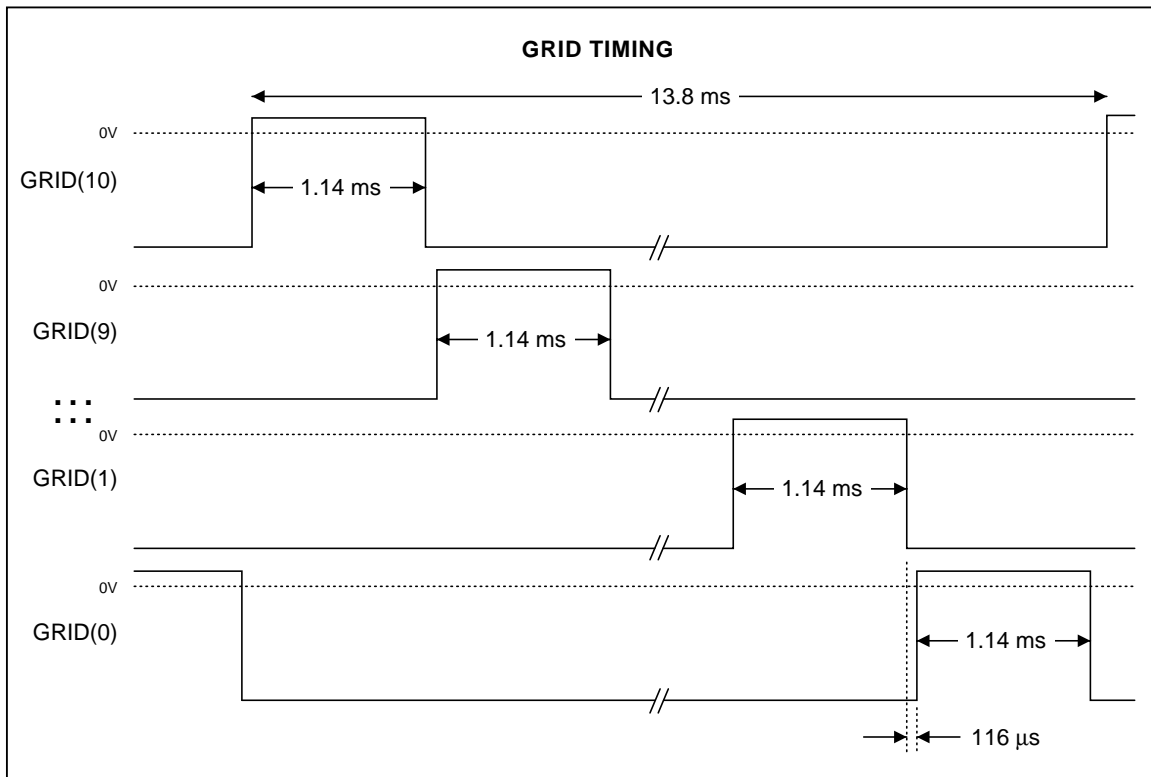

Figure 2-9. Grid Control Signal Timing
The Display Controller provides multiplexed drive to the vacuum-fluorescent display by strobing each grid while the segment data for that display area is present on the anode outputs. Each grid is strobed for approximately 1.14 milliseconds every 13.8 milliseconds, resulting in each grid on the display being strobed about 72 times per second. The grid strobing sequence is from GRID(10) to GRID(0), which results in left-to-right strobing of grid areas on the display. Figure 2-9 shows grid control signal timing.